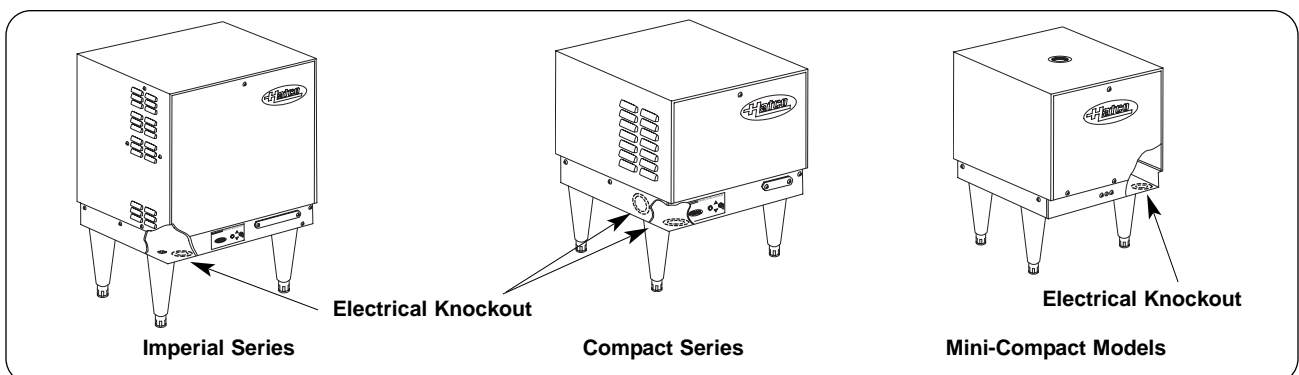

Figure 16. Electrical Knockout Locations
3. Bring power leads from a properly sized disconnect switch or circuit breaker through the knockout provided on the unit (Figure 16), and connect to the terminal or fuse block(s). **USE COPPER WIRE ONLY. TIGHTEN CONNECTIONS PROPERLY TO A MINIMUM OF 40 INCH POUNDS.**